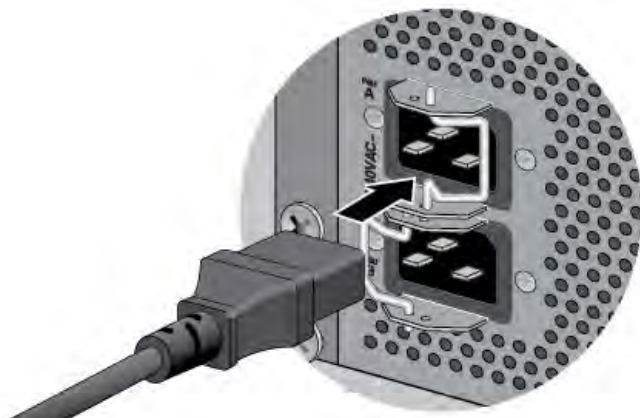

Figure 56. Connecting the AC Power Cord
1. Connect the AC power cord included with the power supply to the AC power connector on the rear panel of the switch. If the switch has two power supplies, you may power them on one at a time or simultaneously. Refer to Figure 56.